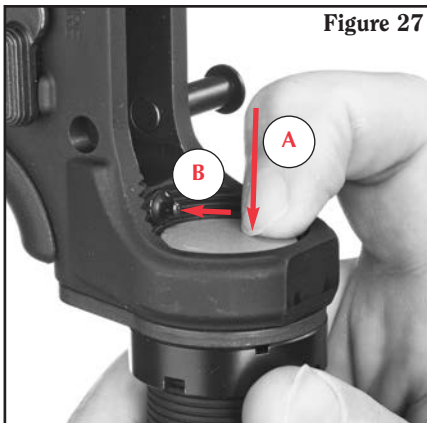

Figure 27
7. Buffer and Spring Field Stripping. (See Figures 27 & 28.)